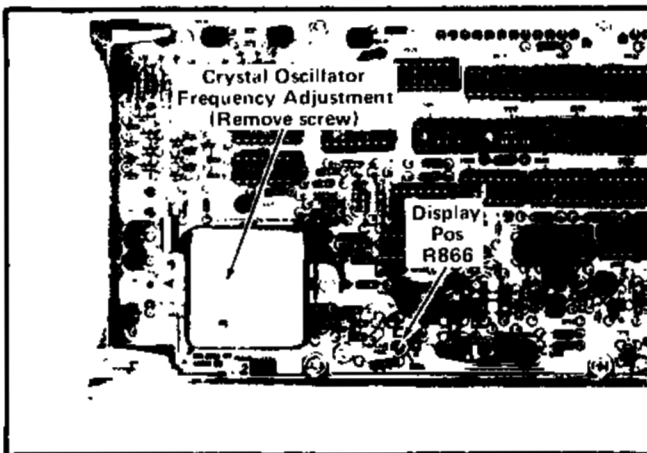

Fig. 5-4. Location of Measurement Interval and Output Signal Adjustments (on left side of instrument).
The location of the Measurement Interval adjustment is shown in Fig. 5-4.
c. Note the Frequency at 27° C notation on the crystal oscillator cover (see Fig. 5-4).
The location of the Output Signal adjustment is shown in Fig. 5-4.